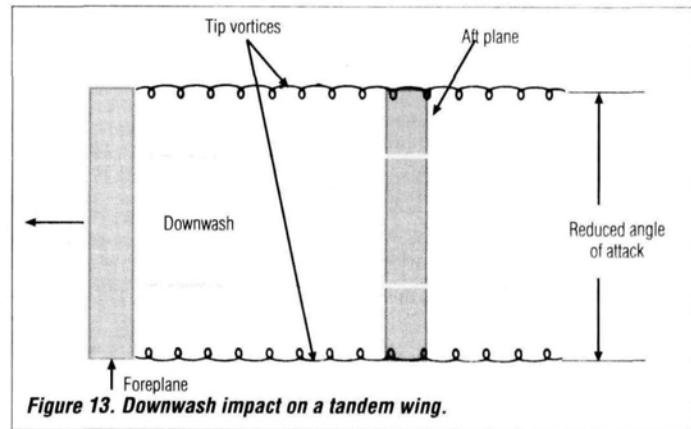

Figure 13. Downwash impact on a tandem wing.
- **Tandem-wing aircraft:** the whole span of the aft wing is similarly affected (Figure 13).